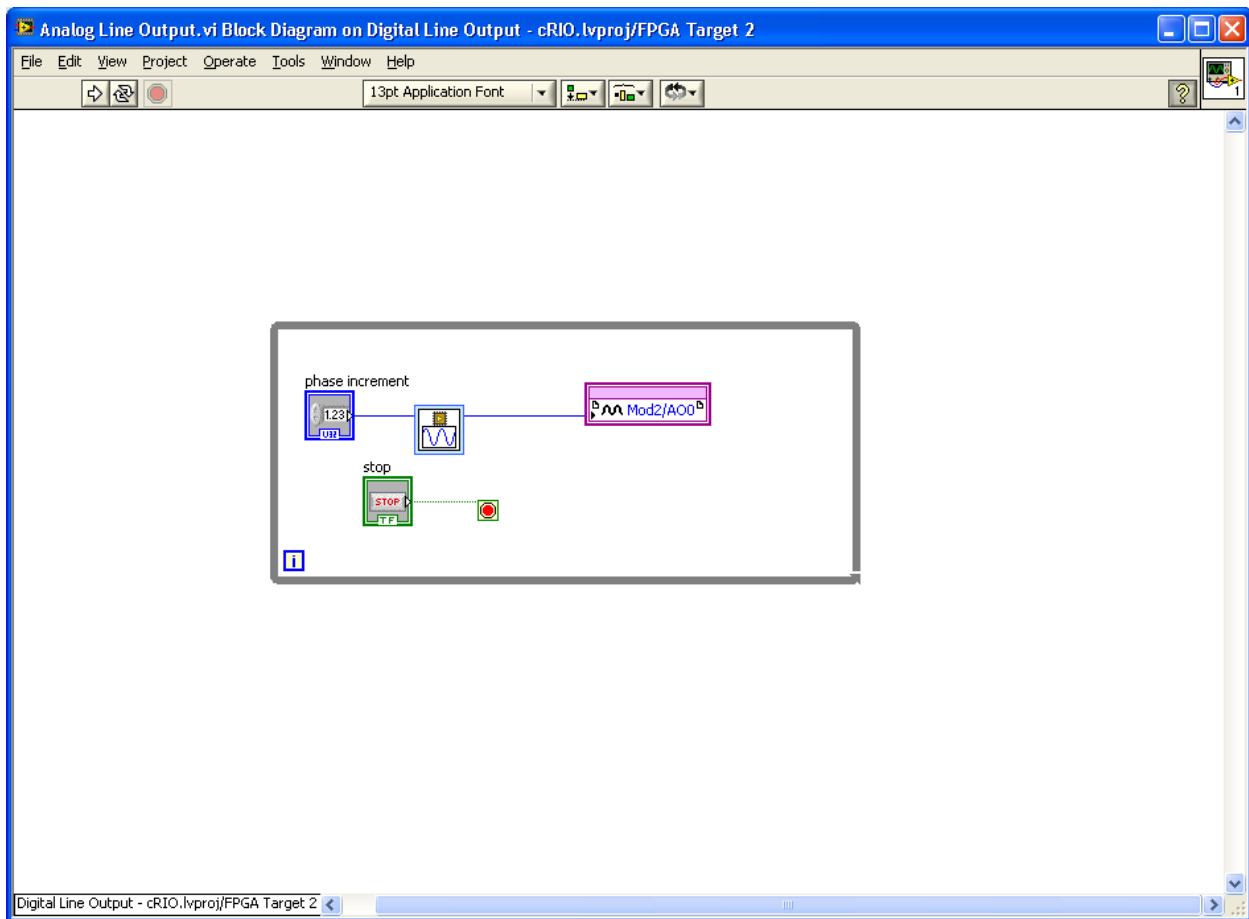

Figure A12 NI 9263 Analog Output VI Block Diagram
- b. Wire phase increment to Sine Wave Generator and Sine Wave Generator to Mod2/AO0. Block Diagram should look like Figure A12.